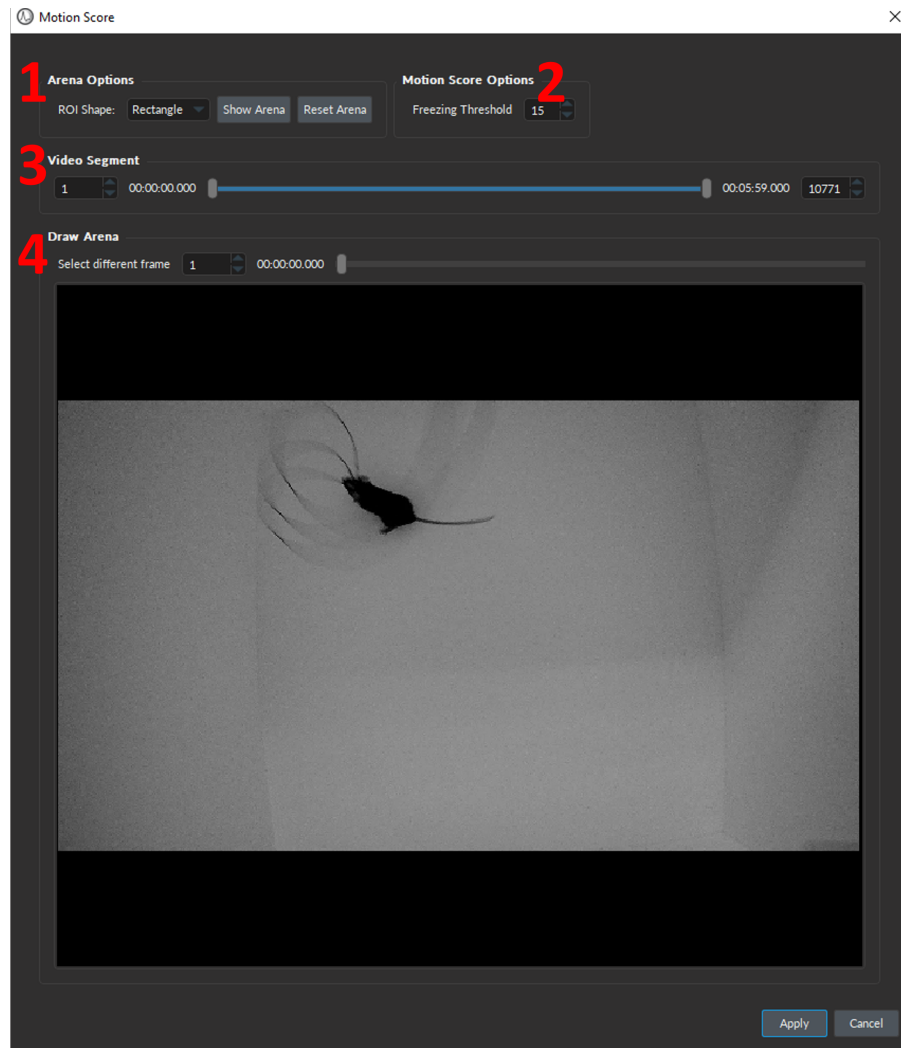

Figure 15.12: Motion Score window
1. The **Arena Options** (Fig. 15.12, 1) allows users to draw a shape on a still frame of the video to define the part of the image that corresponds to the animal arena. If no arena is defined, the entire image will be set at the arena. To define the arena area use the following parameters:
2. The **Motion Score Options** (Fig. 15.12, 2) defines the **Freezing Threshold** pixel value. This value must be between 0 and 255. This is a relative value indicating the value count change that is interpreted as movement.
3. The **Video Segment** sliding scale (Fig. 15.12, 3) is used to define a time window within the video where the **Animal Tracking** algorithm will be applied. **This feature is useful to test the parameters on small video increments at a time to verify whether those parameters are satisfactory.** Users can define the time window using either by specifying a starting and ending frame or by using the two sliding scale pointers.
4. The **Draw Arena** (Fig. 15.12, 4) displays a still frame of the video where the user will define the arena which will be the input to the **Motion Score** algorithm.